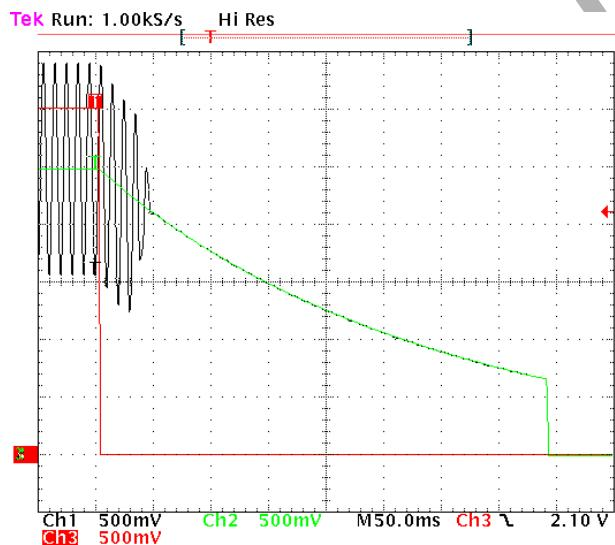

Figure 40. Turning-Off Time
– 385 ms later, the DC signal will reach 0.7 V due to exponential discharge of the bypass voltage. It is then tied to Ground as shown in Figure 40.